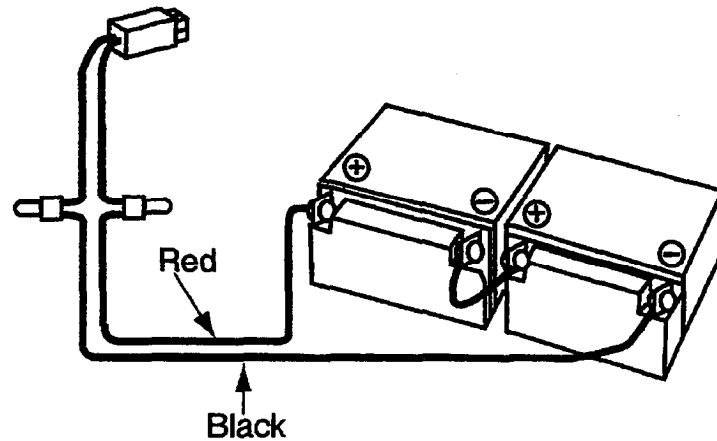

Figure 2-16 Connecting the Two PSF Built-In Batteries
1. Connect the two batteries in series. Refer to Figure 2-16 - Connecting the Two PSF Built-In Batteries.